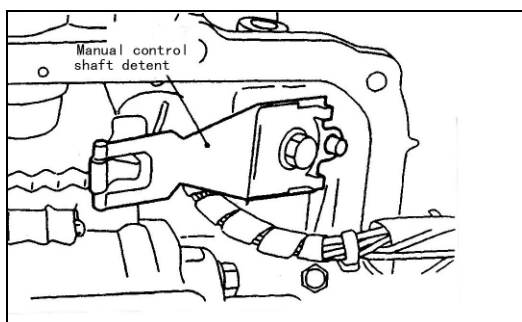

Fig. 11A-123
(74) Install the manual control shaft detent. See Fig. 11A-123。
(75) Apply the liquid gasket to the valve body cover. See Fig.11A-124。